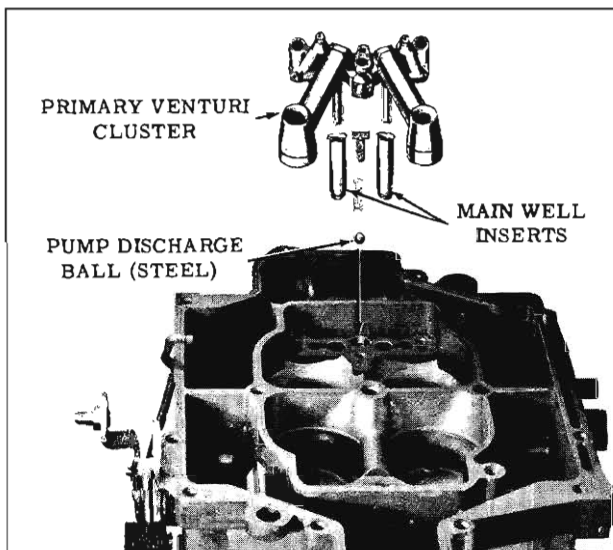

Fig. 4-160 Pump Discharge Parts and Cluster
5. Install the pump outlet steel ball, spring and T-shaped guide in the center hole of primary venturi cluster mounting surface in float bowl. (Fig. 4-160)